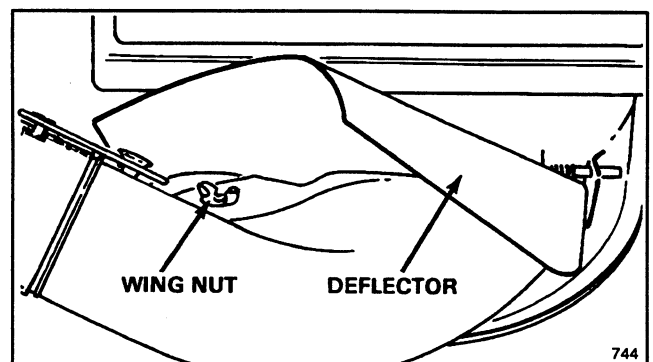

Figure 5
4. Slide chute assembly under deflector inserting front of chute into mower housing V-bracket and rear of chute onto mounting pin (Fig. 5). Secure chute to mower housing with wing nut.